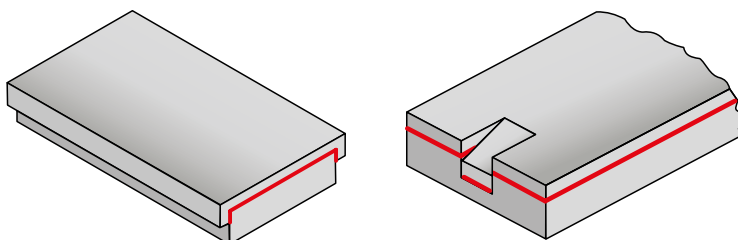

Fig. 39: Mechanical location of DU slideplates
- Mechanical location as shown in Fig. 39